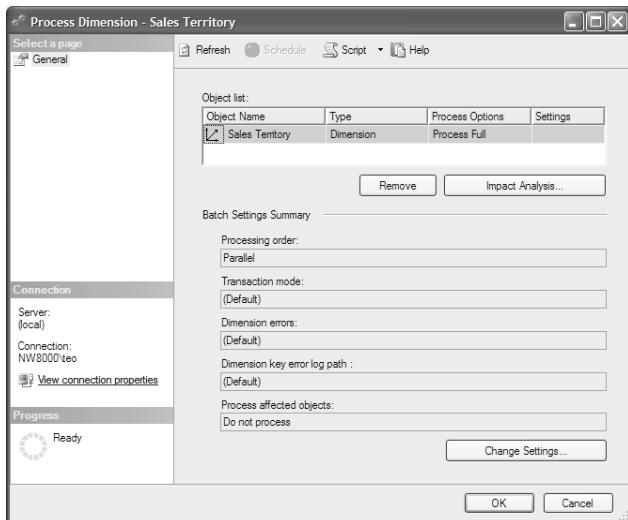

Figure 15.2 Fully processing a dimension discards the storage contents of the object and rebuilds them from scratch.
3. Change the Processing Options to *Process Full* (Figure 15.2).